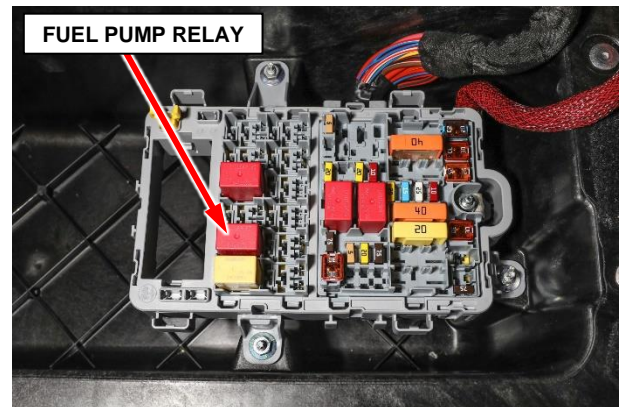

Figure 5 – Fuel Pump Relay
6. Locate the T-10 fuel pump relay and remove it and set aside (Figure 5).
24. Install the T-10 fuel pump relay into the fuse box cavity (Figure 5).